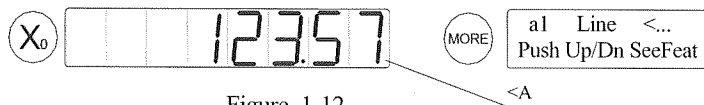

Figure 1-12
- 2) Press **MORE**, and the message is displayed as in figure1-12. The displayed value on the X axis indicates the value of the included angle that was made by the line and the positive direction of X axis.